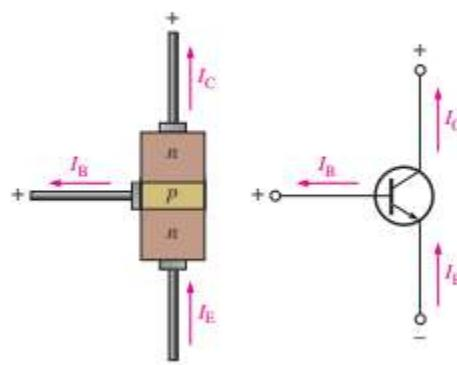

Fig. 2.2: Transistor currents
- The directions of the currents in an npn transistor and its schematic symbol are as shown in Fig. 2.2. Notice that the arrow on the emitter inside the transistor symbols points in the direction of conventional current. These diagrams show that the emitter current (I_E) is the sum of the collector current (I_C) and the base current (I_B), expressed as follows: